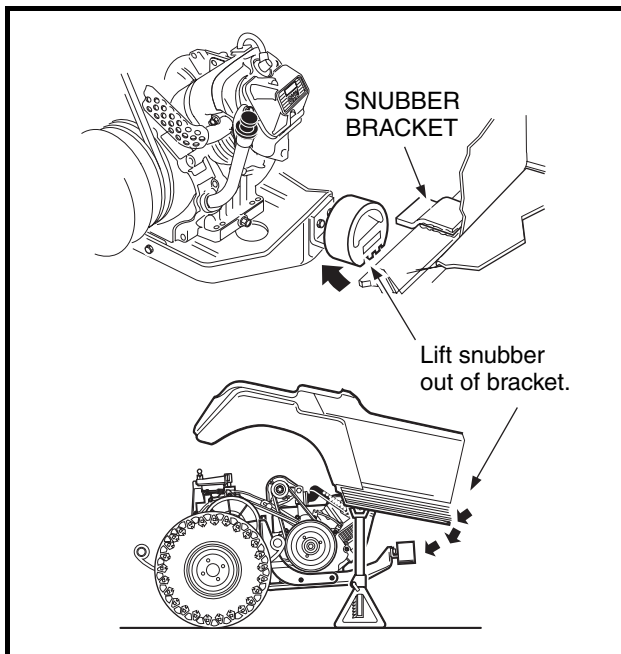

Figure 18-26 Snubber
- Carefully lift the snubber out of the snubber bracket in the vehicle frame and lower it to the floor (**Figure 18-26, Page 18-11**). The powertrain should be completely disconnected from the vehicle and resting on the floor.